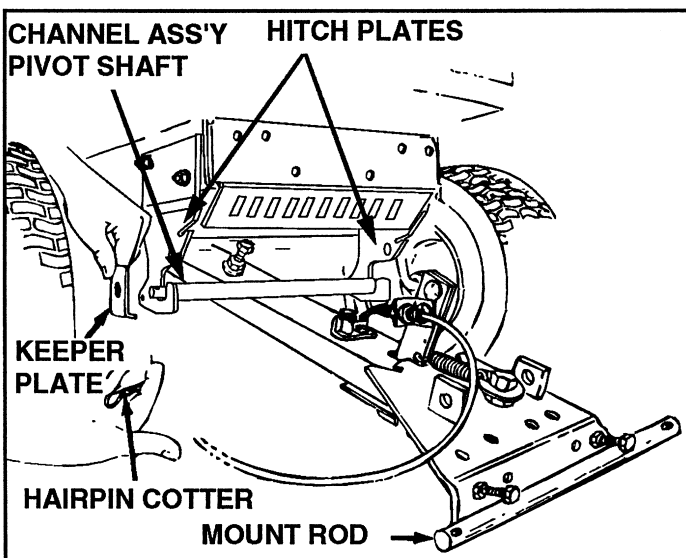

FIGURE 11
3. Assemble keeper plates over each end of pivot shaft with lip under hitch plates (see figure 11) and secure with two 1/8" (large) hairpin cotter through small holes near each end of shaft.
5. Hold blade head upright and guide one end of mount rod into hole near bottom of blade mount gusset. See figures 11 and 13. Secure with a hairpin cotter. Slide other end of mount rod into other blade mount gusset hole and secure with hairpin cotter.